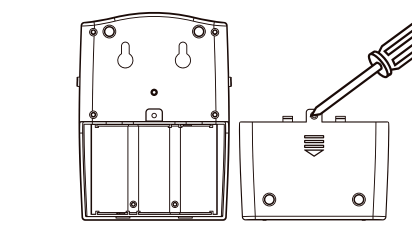

Fig. 4
- Remove the screw from the back of the receiver cover and open the panel. (Fig.4)